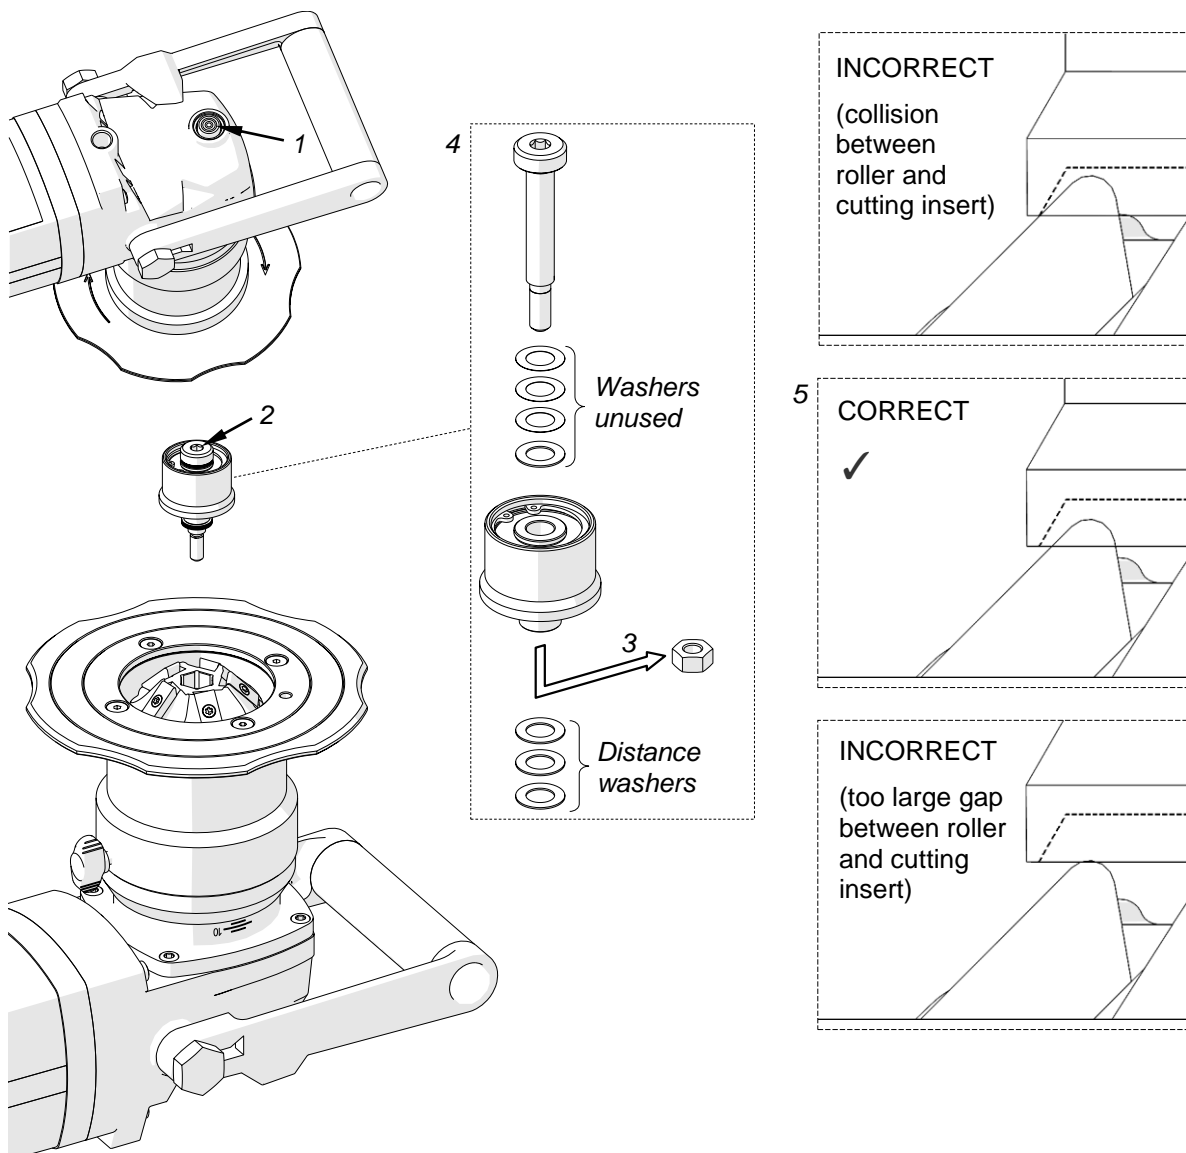

Fig. 9. Replacing the roller
Unplug the machine from the power source, and place the machine upside down. Next, press the spindle lock button (1, Fig. 9), and then use the 5 mm hex wrench to unscrew the roller (2).